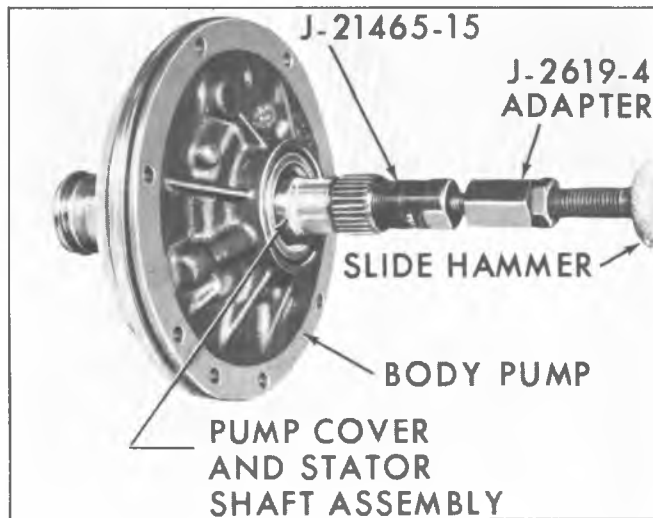
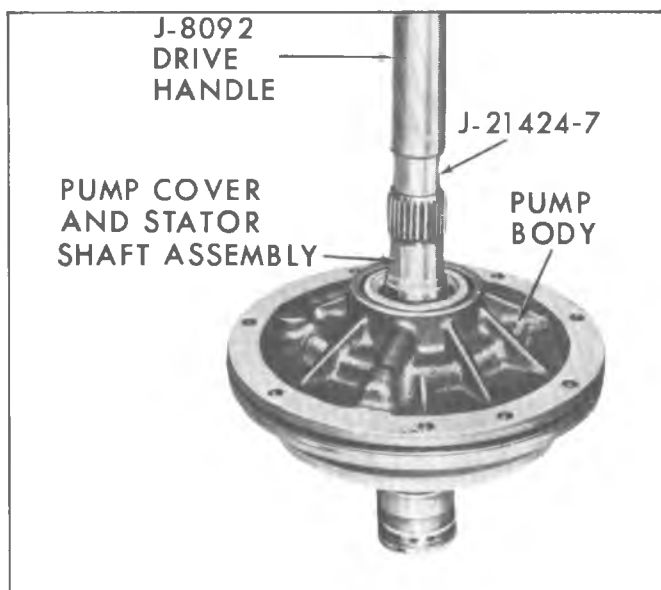
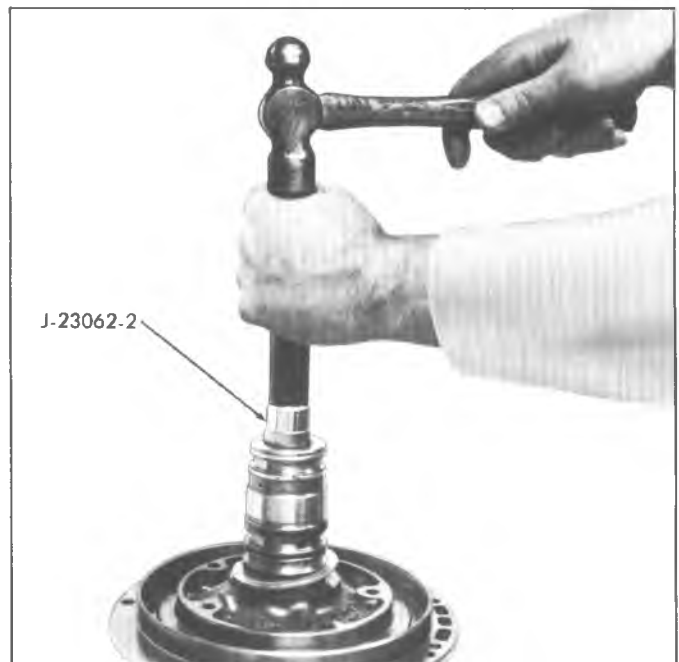

Fig. 96M--Removing Stator Shaft Front Bushing
Fig. 97M--Installing Stator Shaft Front Bushing
Fig. 98M--Installing Inner and Outer Stator Shaft Bushing
With stator shaft properly supported, remove front bushing using tool J-21465-16 and slide hammer with adapter J-2619-01 (fig. 96M). Using tool J-21242-7 and drive handle J-8092, install bushing to .250" from face (fig. 97M).
With stator shaft properly supported, remove front bushing (fig. 98M). Place tool J-21424-7 and drive handle J-8092 with extension J-21465-13 through front of stator shaft and drive out two (2) rear bushings. Using tool J-23062-2 and extension J-21465-13, install inner bushing to approximately 1-5/32" below front face and
outer bushing 3/32" below front face (fig. 98M). Install new front bushing (fig. 97M).